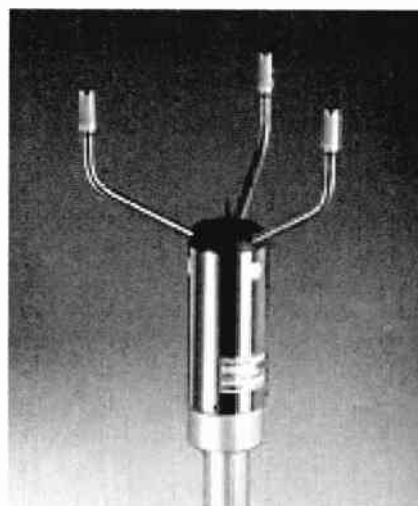

Fig.2. An ultrasonic wind sensor.
**Ultrasonic methods:** in one technique, three ultrasonic transducers are located at the apexes of an equilateral triangle. Wind speed and direction affect the transit time of ultrasonic pulses travelling between the transducers and accurate measurement of this time can be used to determine the two quantities. A typical device of this type is shown in Fig.2. A similar technique uses four sensors in a square, as used in John Becker's *PIC Met Office Mk2*, Sep/Oct '03).